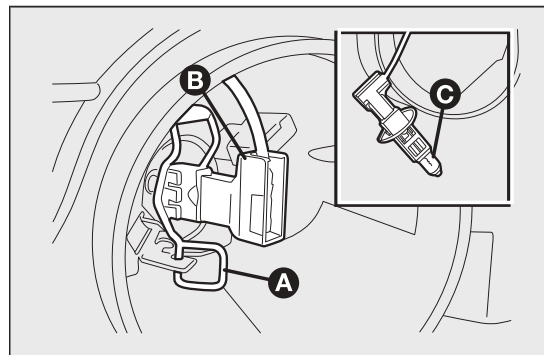

fig. 140
- release the bulb holding clip A fig. 140;